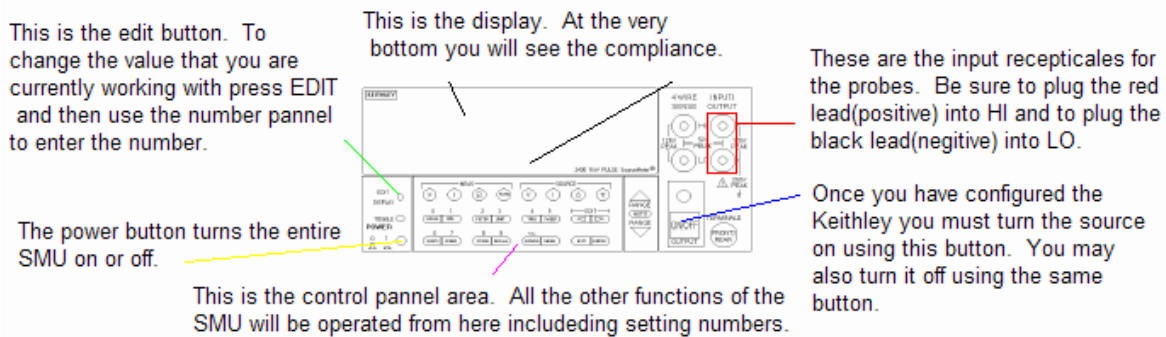

Figure 2. Front panel of the Keithley SMU 2430.
2. Press the **EDIT** button at the left of the front panel (see Figure 2). If you were successful, the voltage source value (V_{src}/I_{src}) will start blinking. If it is not blinking press the **EDIT** button again.
- ③ \wedge and \vee : The **Up** and **Down** arrows in the range group (at the bottom right side of the front panel next to Output On/Off light) are used to change the range of the source value.
- ③ \wedge and \vee : The **Up** and **Down** arrows in the source group are used to change the digit value.
- ③ $<$ and $>$: The **Left** and **Right** arrows in the EDIT group are used to select the digit you wish to alter.